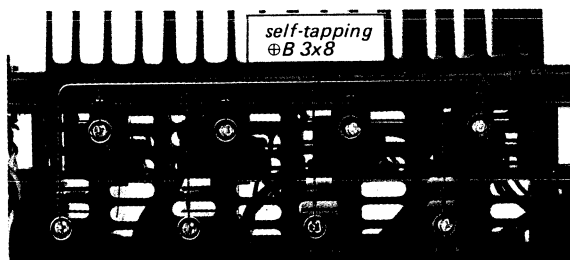

Fig. 2-15 Heat sink removal
3. Remove the four self-tapping screws ($\text{Ø} B 3 \times 8$) securing a pair of heat sink to the chassis as shown in Fig. 2-15.